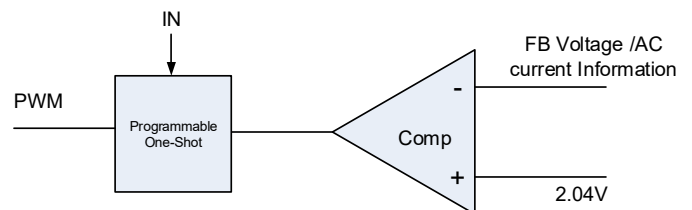

Figure 6. Simplified Control Schematic of AOZ2297QI-03
The control algorithm of AOZ2297QI-03 is constant-on-time PWM control with input feed-forward. The simplified control schematic is shown in Figure 6. The high-side switch on-time is determined solely by a one-shot whose pulse width is inversely proportional to input voltage (IN). The one-shot is triggered when the internal 2V is higher than the combined information of FB voltage and the AC current information of inductor, which is processed and obtained through the sensed low-side MOSFET current once it turns-on. The added AC current information can help the stability of constant-on time control even with pure ceramic output capacitors, which have very low ESR. The AC current information has no DC offset, which does not cause offset with output load change, which is fundamentally different from other V^2 constant-on time control schemes.